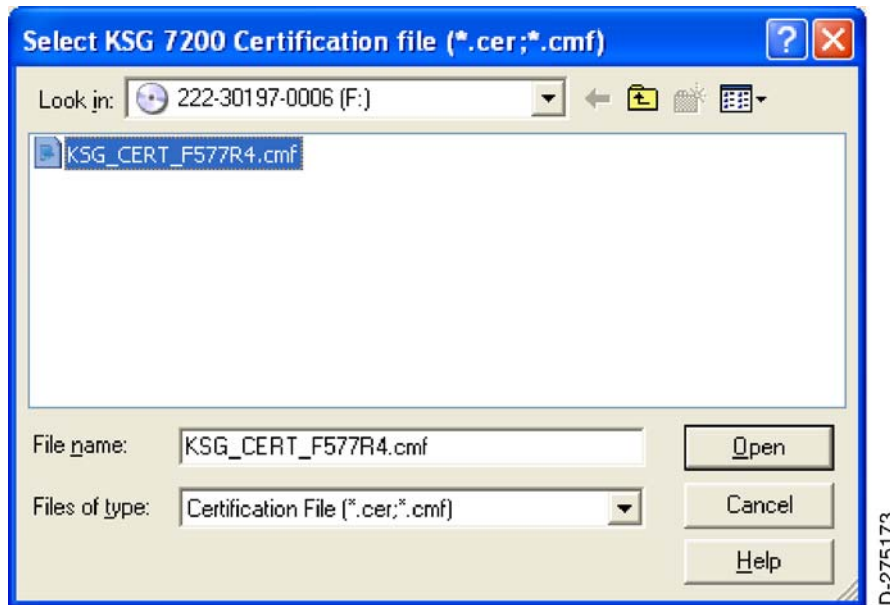

Figure 28. (Sheet 1 of 1) Select KSG 7200 Certification File (*.cer;*.cmf) Window for Pilatus Certification File KSG_CERT_F577R4.cmf (60/75 mGauss settings)
- (10) Click the OK button and the Select KSG 7200 Certification File (*.cer, *.cmf) window will appear.
- (a) Refer to Figure 28 to identify Pilatus (60/75 mGauss settings).